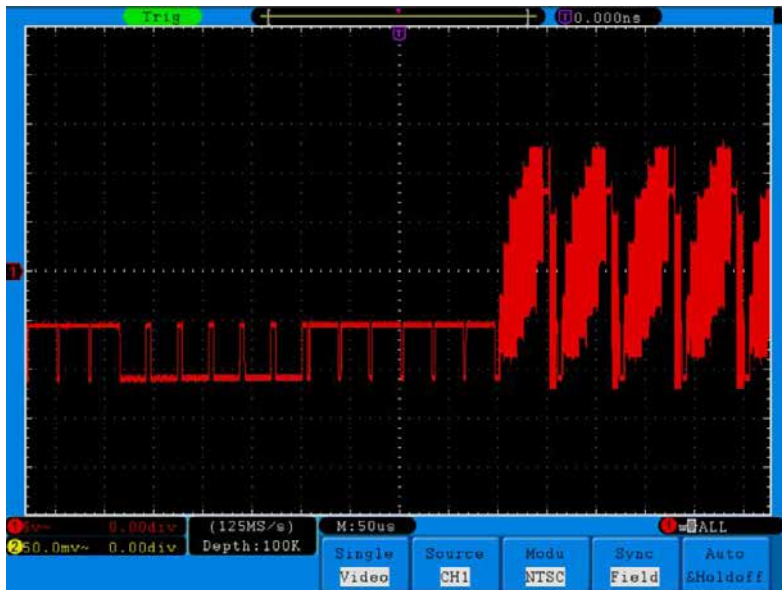

Fig. 84 Waveform Obtained from Video Field Trigger
11. Turn the **VOLTS/DIV**, **VERTICAL POSITION** and **SEC/DIV** knobs to obtain a proper waveform display (see Fig. 84).